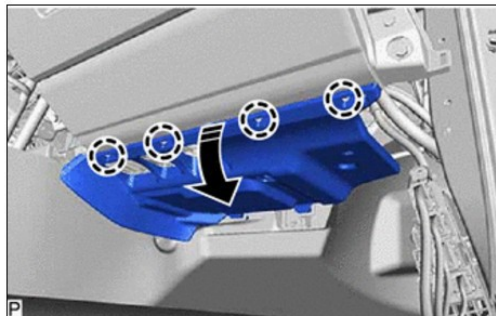

Figure 16c
- (a) Disengage the 4 claws as shown in Figure 16c.